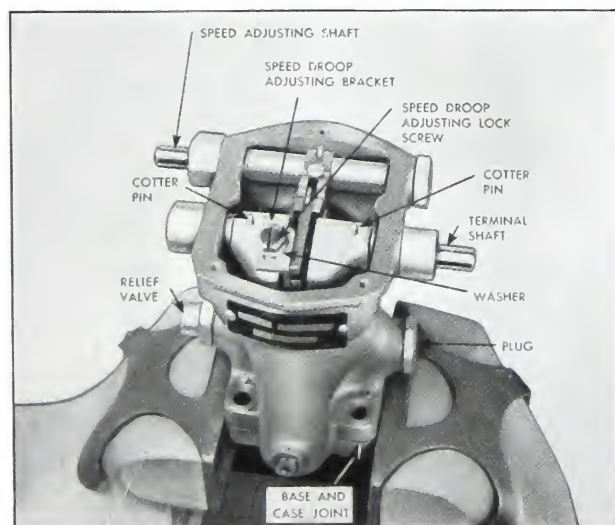

Fig. 5-54. Top cover removed
Disassembly: 1. Clamp governor lightly in vise below case and base joint. Fig. 5-54.
11. Unscrew relief valve assembly and plug. Remove from case. Fig. 5-54.